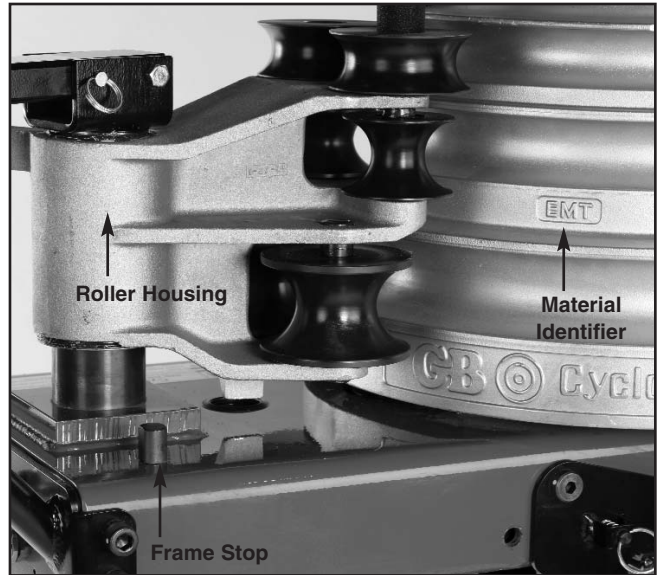

Figure 3. Set Up
3. Locate the markings that indicate which grooves are used for specific materials, and which grooves are used for specific size conduit. See Figure 3.
8. Insert the conduit in the shoe groove marked with the number matching the size conduit being bent. The conduit must set in the shoe and in the jaw. The end of the conduit must extend a minimum of 2" beyond the jaw. See Figure 3. Refer to table A or B on page 5 for bending data.